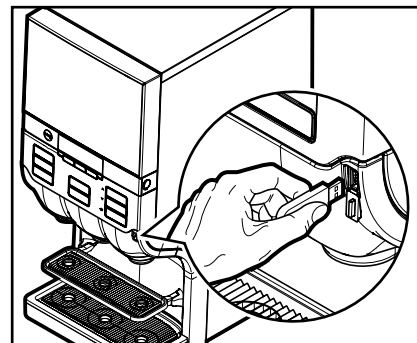

Fig. 23
- Insert the USB release key into the USB port on the dispenser to enable temporary drink delivery. (Fig. 23)